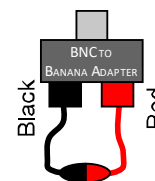

Figure 4
5. Connect the CH1 input leads directly together (Figure 4, right); do the same on CH2, and **FOCUS** (3) the spot so that it is a small dot. Adjust the spot **INTENSITY** (1) so that it is not too bright, which will burn an image on the screen.
6. Move the spot horizontally with the **HORIZONTAL POSITION** knob (16), and vertically with the CH2 **VERTICAL POSITION** knob (8) so that the spot is centered at the origin. When the spot is centered, disconnect the input leads from each other on both CH1 and CH2.
7. *Measuring Voltages*: Make sure that both **CAL** knobs (13) are turned fully clockwise. Hold the CH1 leads across the terminals of a 9-volt battery and observe the movement of the spot (note that the red connector on CH1 is the positive terminal, and black is the negative terminal). At the current sensitivity setting (1 **VOLTS/DIV**) the spot probably has moved off the screen. *Why do you think this happened?*
8. With the leads still connected to the battery, change the sensitivity with the CH1 vertical sensitivity knob (12) to see how it works. When an appropriate scale is set, measure the battery voltage by interpreting each centimeter mark as a number of volts equal to the “volts/div” setting on the sensitivity knob.